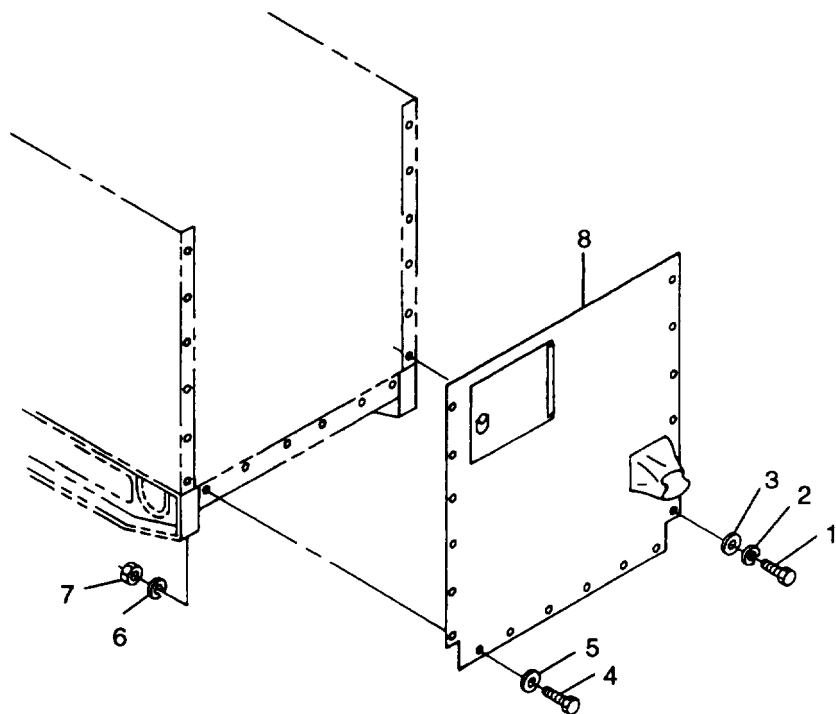

FIGURE 3-7. Rear Housing Panel
- t. Remove bolts (10) and (12), washers(11) and (14), lockwashers (9) and (13), nuts (8), and shroud halves(15) from radiator assembly (27).
- u. Remove bolts (16) and fan (17) from water pump.
- v. Loosen clamp (18) at thermostat housing and disconnect hose (1 9).
- w. Loosen clamp (20) at water pump and disconnect hose (21).
- x. Remove clamp (22) at radiator drain valve (24) and disconnect hose (23).
- y. Remove nuts (25) and washers (26) securing radiator assembly (27). With the aid of an assistant, remove radiator assembly (27) and shims (28).
- z. Remove bolts (1 and 4, FIGURE 3-7), washers (3) and (5), lockwashers (2) and (6), nuts (7), and rear housing panel (8) from generator set.
- af. Remove caps and connect fuel hose (4) to fuel line (5).
- ag. Remove caps and connect hose (3) to fuel filler panel assembly (6) and tighten clamp (2).
- ah. Remove caps and connect fuel filler panel assembly (6) to fuel tank and tighten clamp (1).
- ai. Install rear housing panel (8, FIGURE 3-7) on generator set with bolts (1) and (4), washers (3) and (5), lockwashers (2) and (6), and nuts (7).